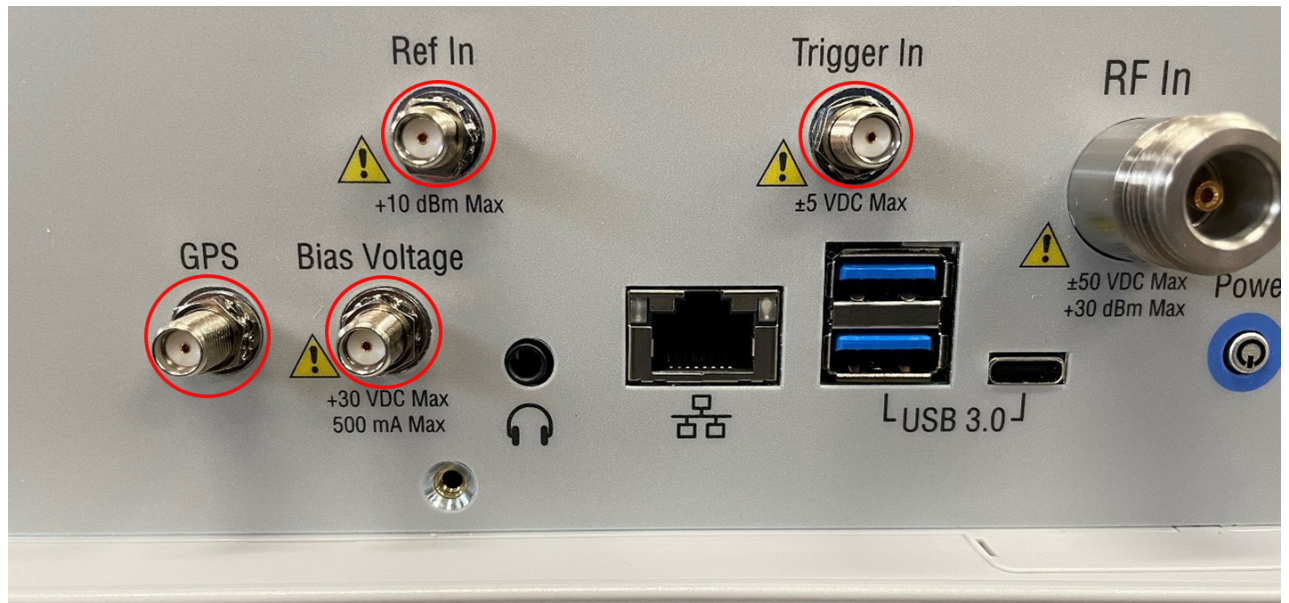

Figure 3-14. SPA PCB Removal
1. Remove the four nuts along with four lock washers from the SMA ports on the top connector panel using a 5/16" wrench. See Figure 3-14.